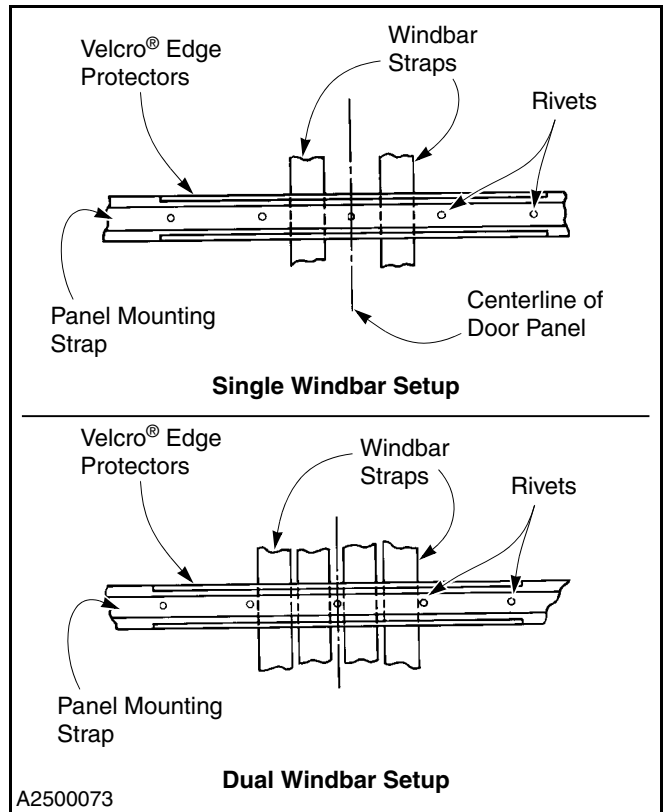

Figure 65
- Remove the rivets securing the panel mounting strap to the fabric drum — only remove the rivets from within the area of the mounting strap that is directly over, and adjacent to, the windbar straps. (See Figure 65.)